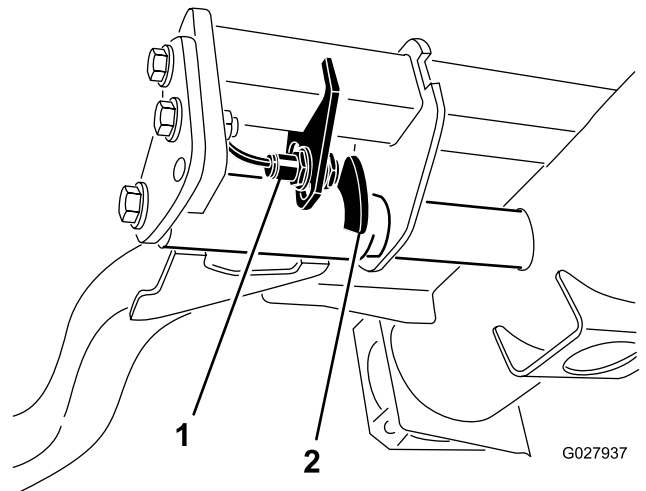

Figure 65
2. The lift-arm switch is located underneath the hydraulic tank behind the front, right lift arm (Figure 65).
3. Loosen the switch-mounting screws and move the switch down to increase the lift-arm turnaround height or move the switch up to decrease the lift-arm turnaround height (Figure 65).